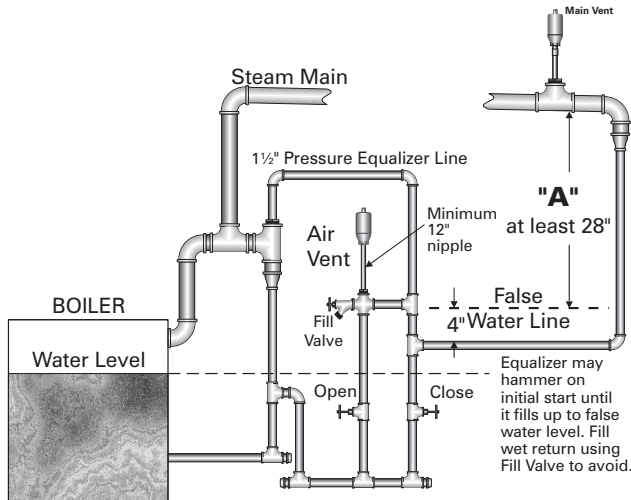

Figure 11: Installing False Water Line to Submerge Returns When New Boiler Water Level is Too Low
- **Parallel flow gravity systems** – check the height of the lowest dry returns. If any part of a **gravity return** wet return line will be above the new boiler water line, mount the boiler on a pedestal if possible to obtain the correct height. If this can't be done, install a false water line (Figure 11) in order to completely cover the return. Otherwise, water hammer will occur in the return.